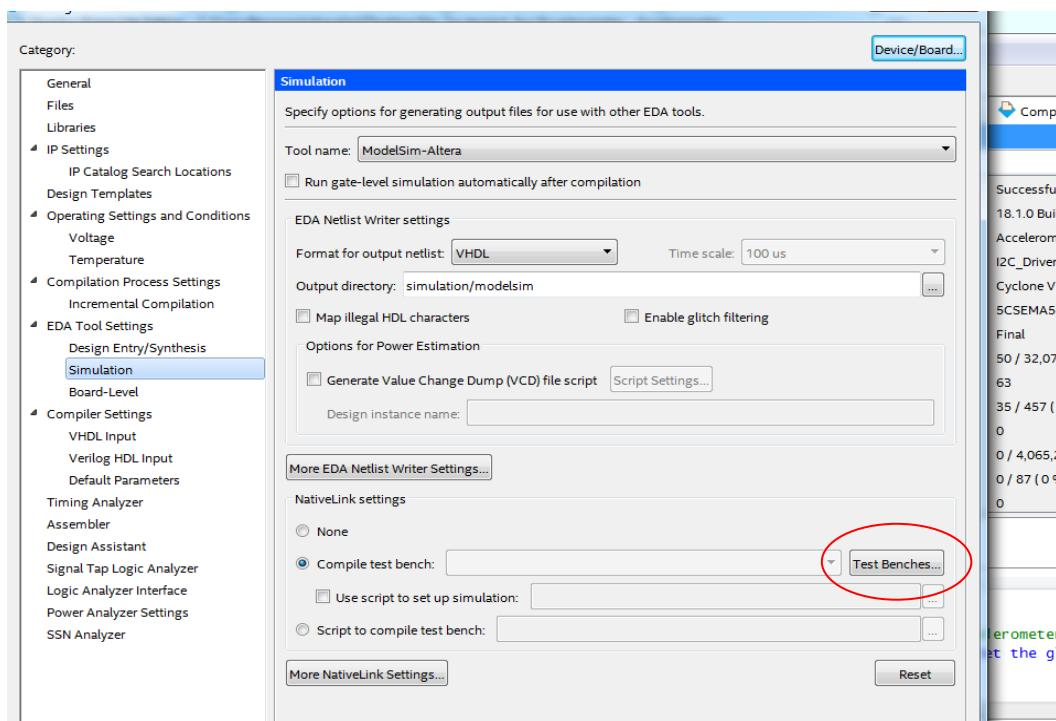

Figure 2.13: Setting test bench for simulation step 2
- → If it is not the case like in Figure 2.13 hereunder, follow the below steps to set it. Otherwise, if the compile test bench is I2C_Driver_TB, then go to the tab tools steps to simulate directly.